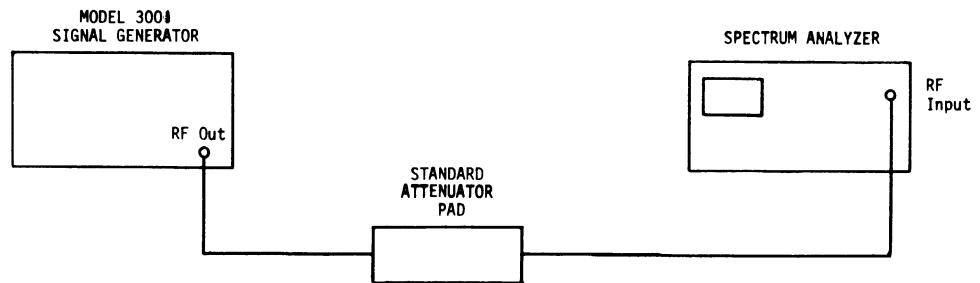

Figure 4-1. Step Attenuator Accuracy Setup
4. Disconnect the power sensor from the Signal Generator RF out connector. Connect a standard 10 dB attenuator pad to the RF out connector. Connect the output of the attenuator pad to the spectrum analyzer as shown in Figure 4-1.
NOTE: To test the OUTPUT step attenuator below -60 dBm an RF amplifier (>20 dB gain) is required. Insert the 26 dB wideband amplifier between the standard attenuator pad and the spectrum analyzer (Figure 4-1). The allowable error for the -90 dBm setting (step 11) is +1.5 dB. The OUTPUT step attenuator can be tested down to the -130 dBm position if a 40 dB RF amplifier is used and if precautions are taken to properly shield the RF output from the Signal Generator.